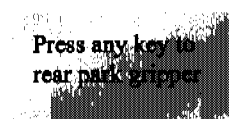

Figure 4.18. Rear Park message
2. Press any key to begin moving the robotic arm. The System Setup menu displays during the movement. Once stopped, the Rear Park message displays (Figure 4.18).